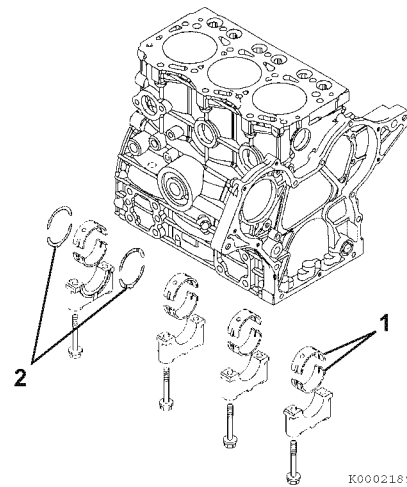

Figure 6-59
- Remove the bearing inserts (Figure 6-59, (1)) and thrust bearings (Figure 6-59, (2)).